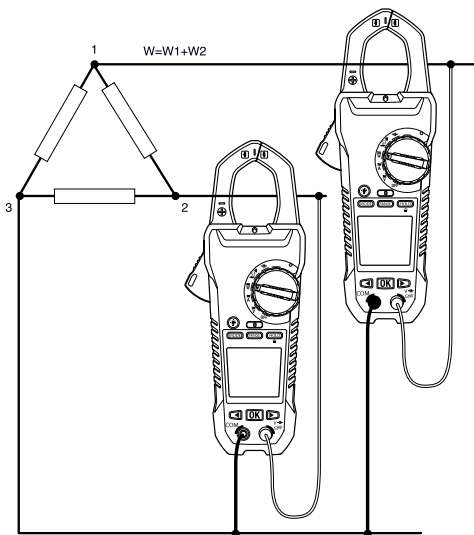

Figure 5.3 Three-phase three-wire measurement
The power of a three-phase three-wire wye (star) configuration is measured in two steps, in accordance with Figure 5.3. The total power is the sum of the two measurements: $W = W_1 + W_2$.
3. Take two measurements of the active power, in accordance with Figure 5.3.